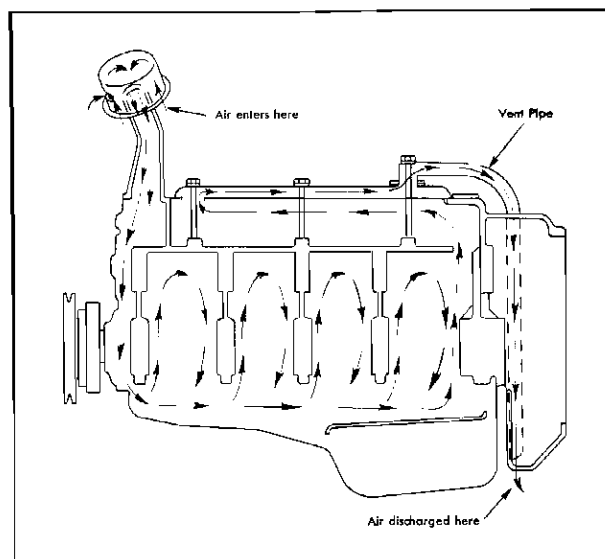

Fig. 10-5 Engine Ventilating System
**CRANKCASE VENTILATION SYSTEM** -- The crankcase ventilating system provides positive air circulation through the crankcase at road speeds. With the system, air enters the crankcase through the oil filler cap. This cap is fitted with a copper mesh air filter which filters the dust out of the air entering the crankcase, Fig. 10-5. Air is drawn down through the timing gear compartment into the crankcase at the crankshaft level. Air and any contaminating vapors then pass up into the valve lifter compartment through an opening in the rear of the cylinder block between the lower part of the crankcase and valve lifter compartment.